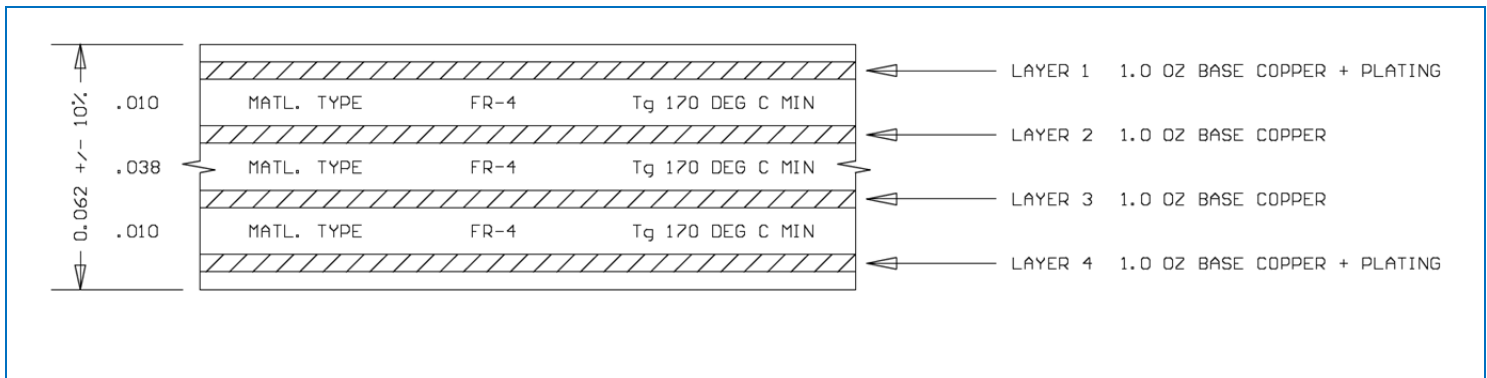

Figure 3. RF6555KW24D512-410 Layer Stack-Up
4. Layer 4 is the Bottom Layer Metal and ground plane and made with solid 1oz base copper and plating. See figure 3 for layer stack-up details.